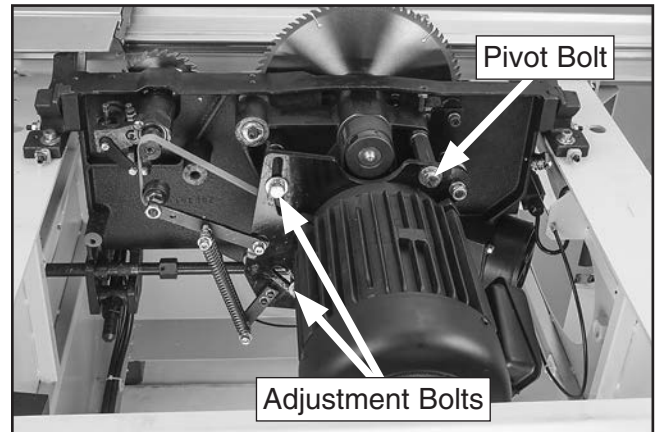

Figure 149. Locations of adjustment and pivot bolts (cast-iron table removed).
3. Loosen pivot bolt and two adjustment bolts shown in **Figure 149**.